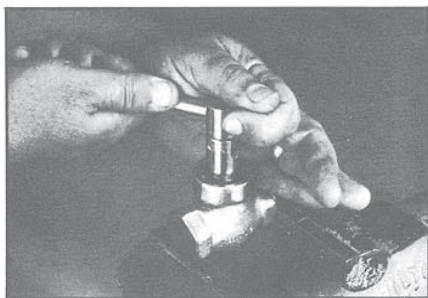

FIG. 2
**CAUTION** Some purchased long set sockets (heavyduty) will not fit body cavity without turning O.D. to fit past body threads. (Fig. 2)